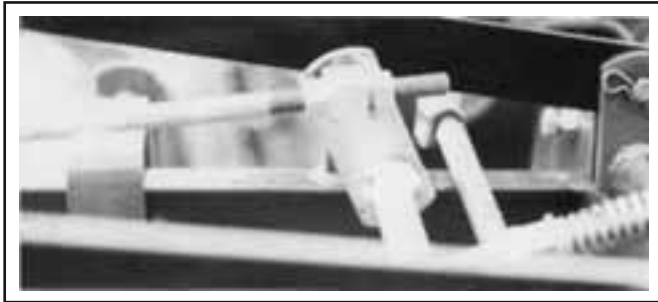
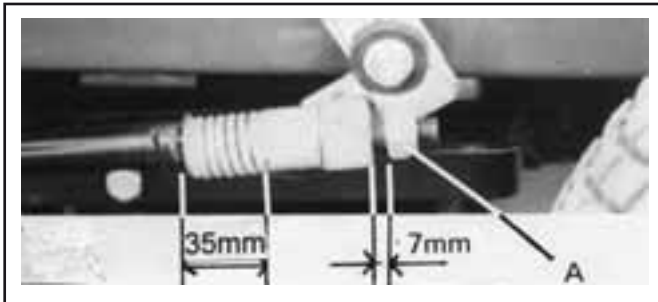

Fig. 16
Fig. 17
3. Adjust Push Rods *Fig. 16* to give a spring compression of 35mm. *Fig. 17*
4. Adjust Locknut 'A' to give 7mm clearance to back of Swivel Block. *Fig 17*